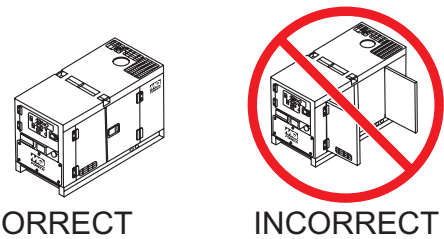

Figure 48. Engine Enclosure Doors
4. Close all engine enclosure doors (Figure 48).